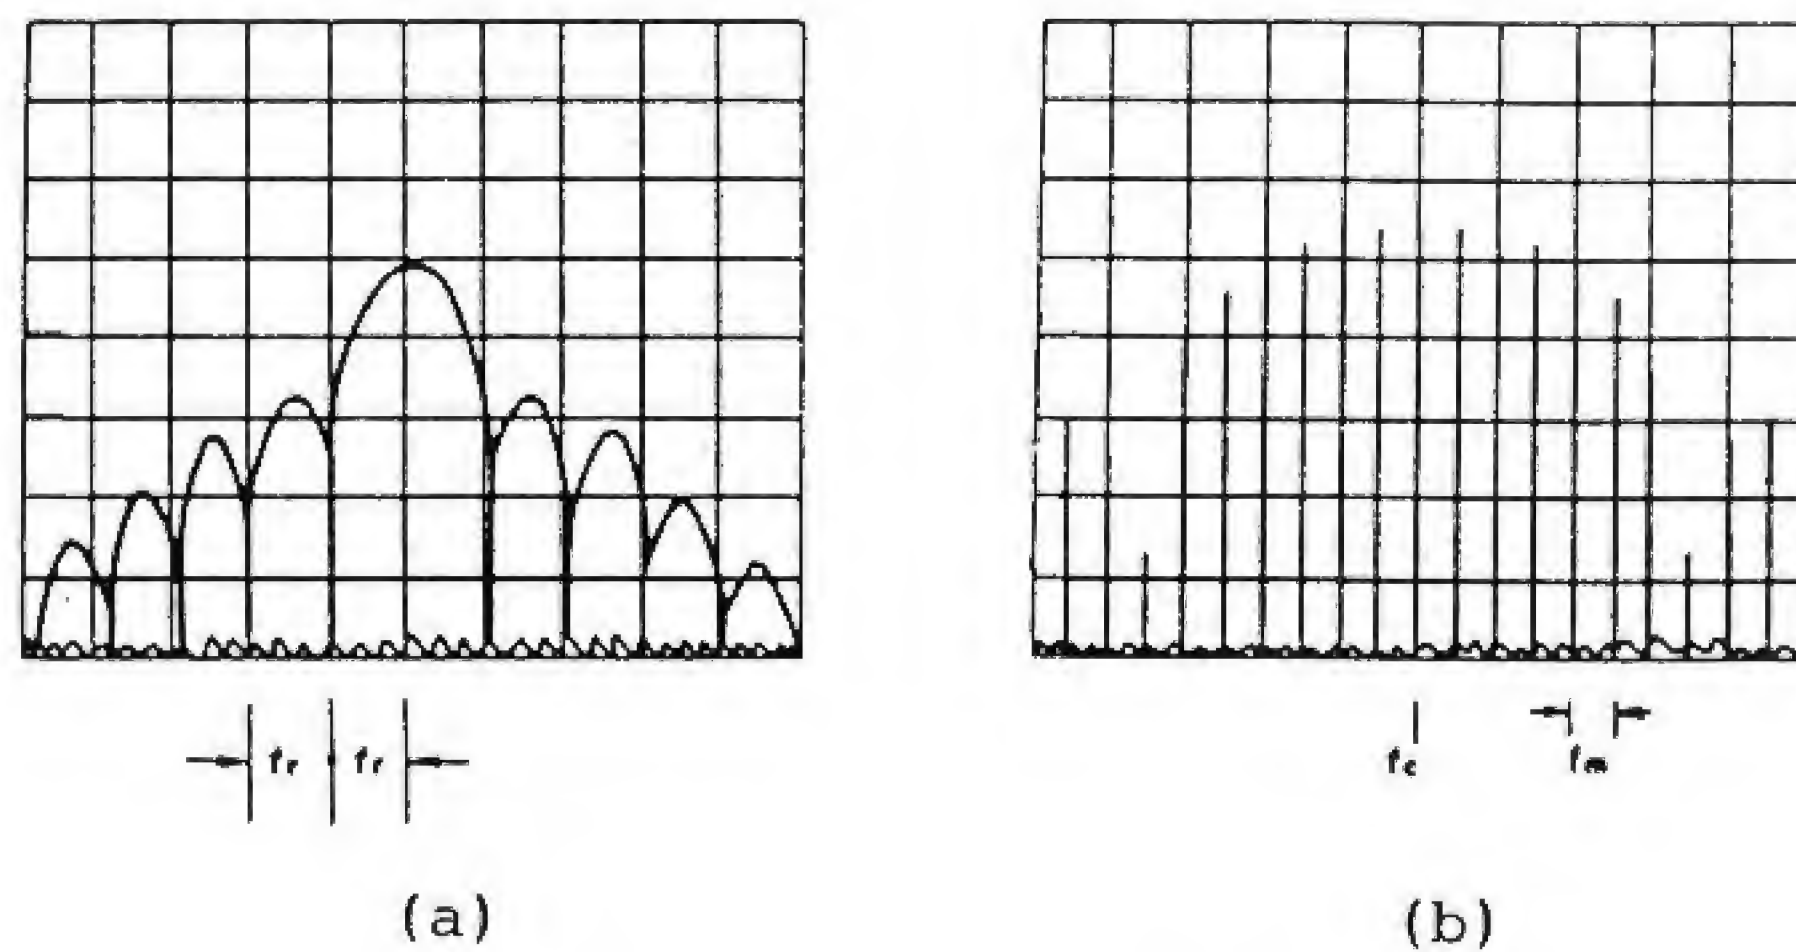

Fig. 3-23 PAM Wave Spectrum
(5) PAM wave measurement
The spectrum display of a PAM wave like that shown in Fig. 3-23 is obtained by the measurement display expansion procedure of item (1). The pulse width τ of the modulation pulse is obtained from the difference frequency f_r between the discontinuous points of the main lobe and side lobe of the pulse spectrum shown in Fig. 3-23 (a) ($\tau = 1/f_r$).
Furthermore, when each sideband spectrum is analyzed by expanding the spectrum, the spectrum display shown in Fig. 3-23 (b) is obtained and the carrier frequency f_c and pulse repetition frequency f_m are measured.